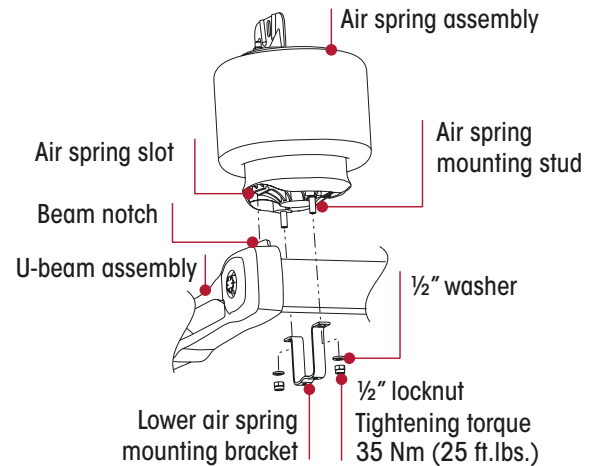

Figure 112: PRIMAAX EX Air Spring – Integrated End Cap
8. Remove the lower mounting fasteners from the air springs using hand tools only. Refer Figure 112.